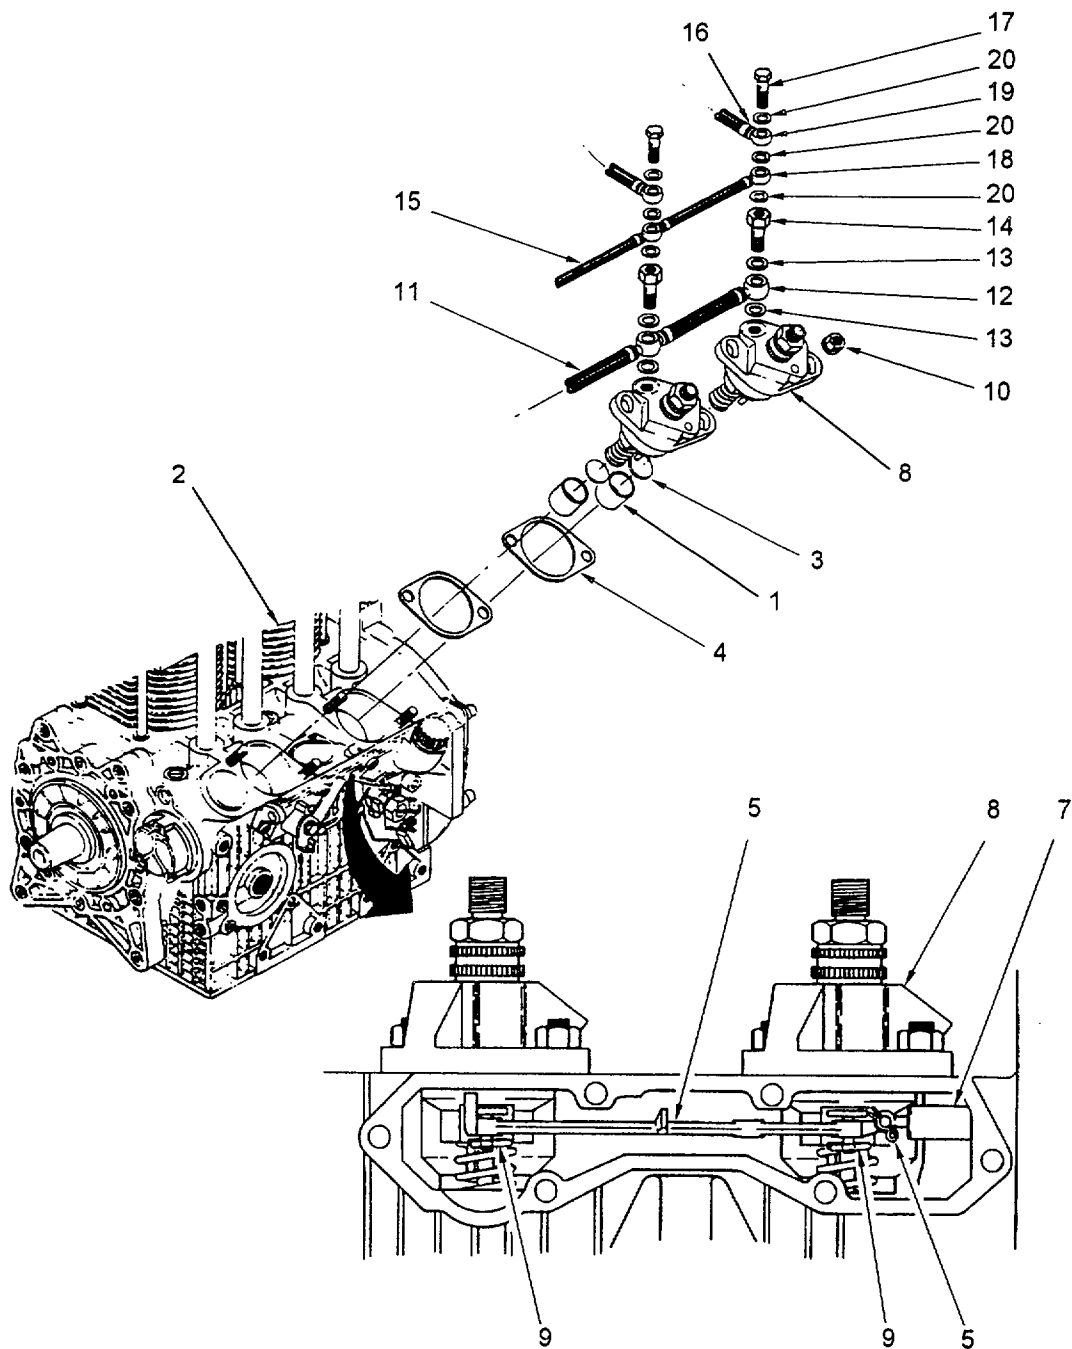

Figure 6-42. Injection Pump Installation
6.4.18 Install Injection Pump. (Refer to figure 6-42.)